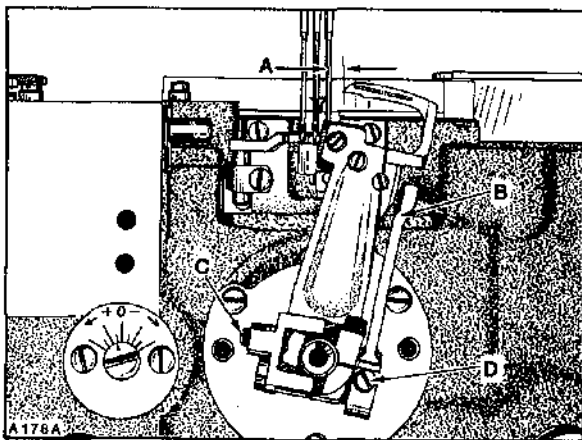
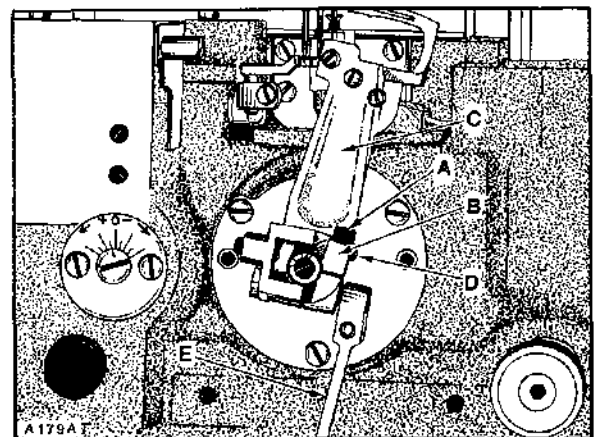

Fig. 9
Fig. 10
If not previously done, insert a new set of needles; type and size specified. With looper holder at EXTREME right end of travel, distance from centerline of RIGHT needle to point of RIGHT looper should be dimension (A, Fig. 9); see chart. Adjustment can be made by pulling release lever (B) down and loosening screw (A, Fig. 10) in stop collar (B). Apply pressure against the upper portion of looper
holder (C) to the LEFT while turning screw (D) in looper holder clockwise to increase looper gauge or counterclockwise to decrease. Applicable looper gauge can be used advantageously in making this adjustment. Continue to apply pressure against upper portion of looper to the LEFT while turning stop collar (B) to its EXTREME CLOCKWISE position and tighten screw (A) securely. Push up release lever (E) to lock looper holder in position. Adjust screw (C, Fig. 9) which incorporates a spring plunger, against the recess in cam of stop collar as required to attain the following conditions:
In locked position, the release lever should be approximately in line with middle looper as viewed from the right side of looper holder. Adjustment can be made by loosening screw (D, Fig. 9), reposition release lever as required and retighten screw.
Loopers must also be set so, as they travel to the left behind the needles, NOT to touch, but with a MAXIMUM clearance of .002 inch (.051mm). Adjustment can be made by pulling release lever down, loosening screw (A, Fig. 10) in stop collar (B) allowing looper holder to be moved forward or rearward on its shaft, as required. Apply pressure against upper portion of looper holder to the LEFT while turning stop collar (B) to its EXTREME CLOCKWISE position and tighten screw (A) securely and push release lever up in locking position. RECHECK looper gauge.